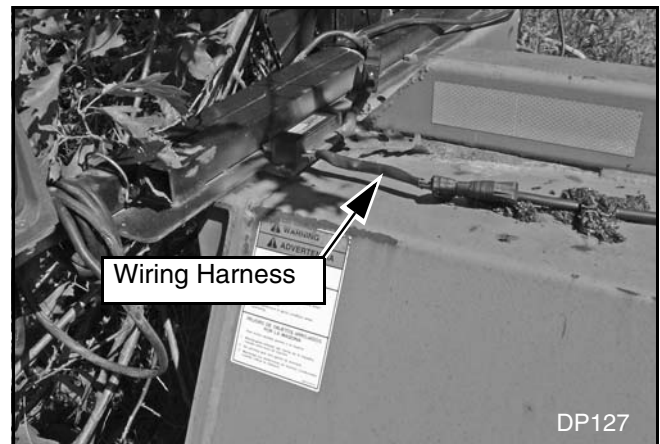

Figure 49. Safety Light Wiring
1. Attach lower end tow hitch mount (4) using carriage bolts (26), and lock nuts (25).
2. Attach tongue lockup bracket (3) using carriage bolts (26), and locknuts (25).
3. Bolt hitch (1) to tow hitch mount brackets (33) using cap screws (27) and locknuts (28).
4. Attach hose bracket (13) to shredder using carriage bolts (26), flat washer (14) and locknuts (25).
5. Secure tongue (1) to tow hitch mount (4) using cap screws (27) and locknuts (28).
7. Store tongue (1) and wire harness as shown, Figure 49.